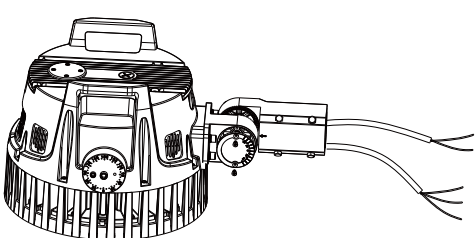

Figure 3
- 1: Remove the bracket mounting screws on the fixture and run the wires through the bracket. (Figure 3)